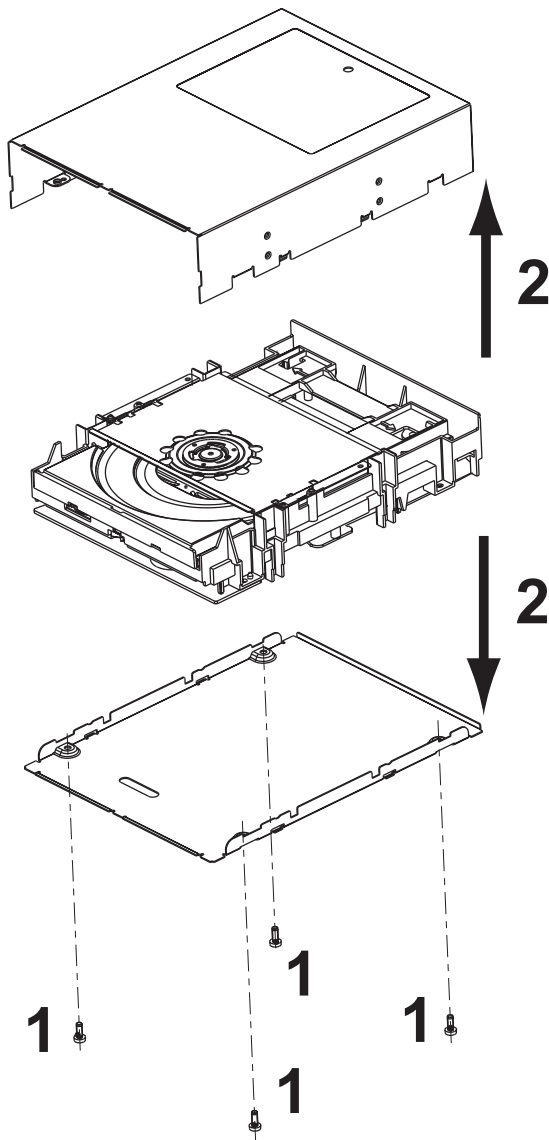

Figure 4-1 Basic Engine dismantling (part1)
- Remove the encasing by releasing the four screws [1], see figure 4-1